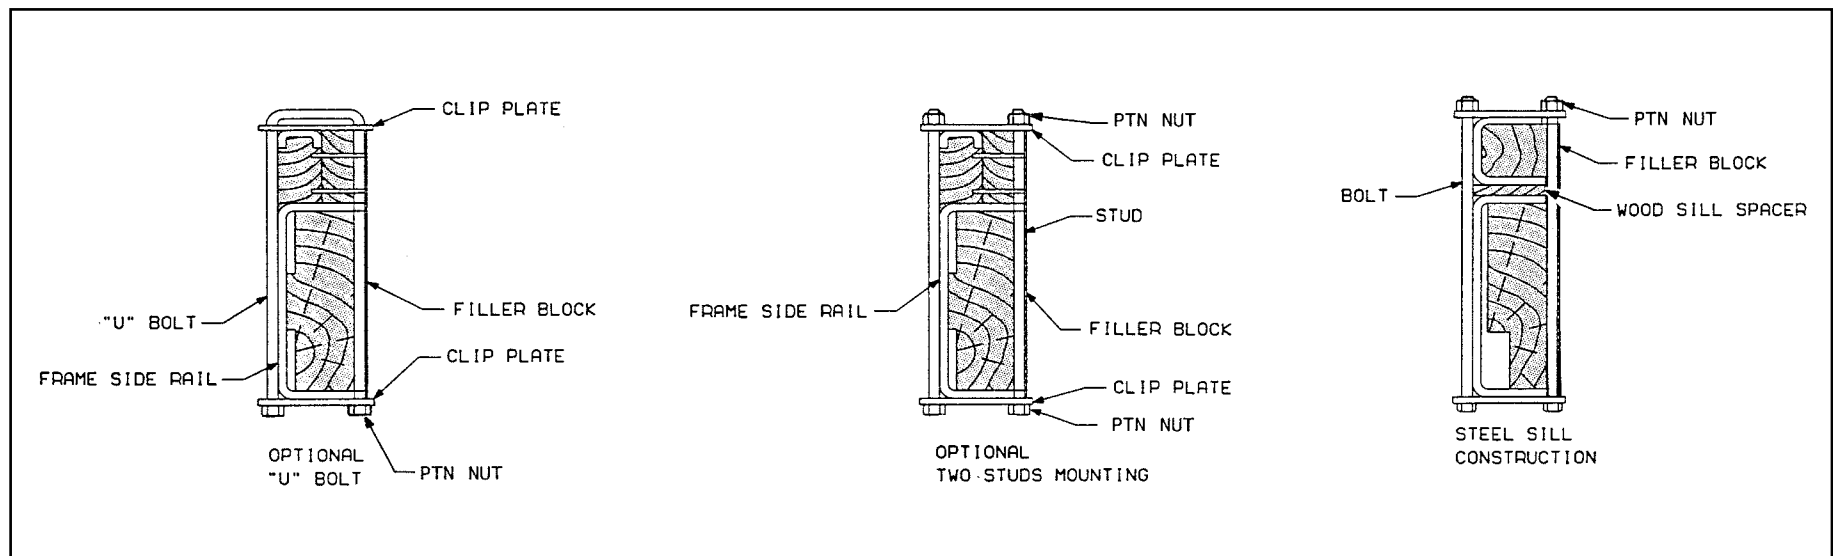

Figure 25
- Use clip plates (approximately the same thickness as mounting bolt diameter) at top and bottom of mounting bolts. When U-bolts are used, the contour at top of the U-bolt should fit against the clip plate. Plate may be notched instead of using holes (refer back to Figure 25).